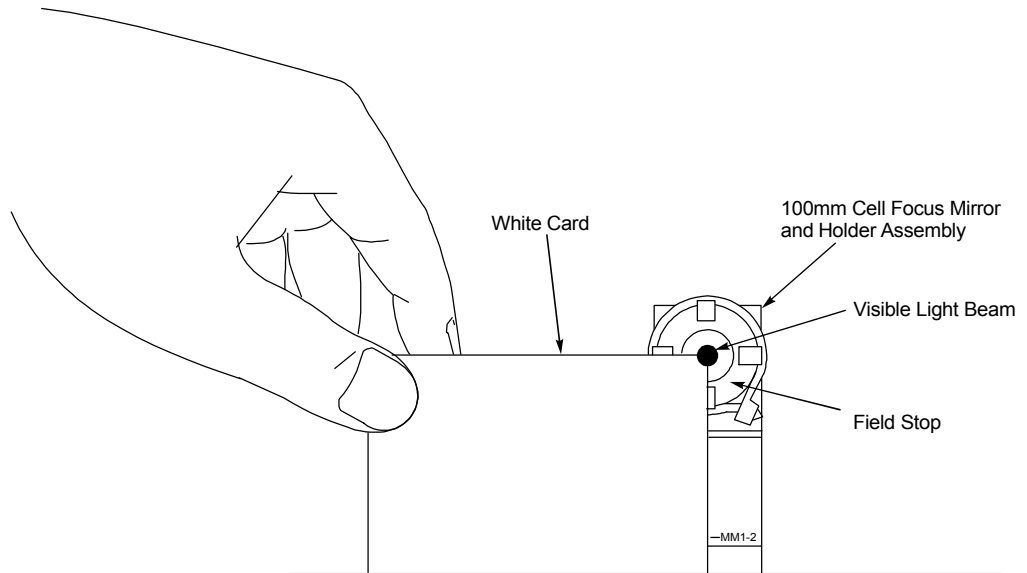

Figure 4-3. Aligning the beam at the center of the cell focus mirror
14. Refer to Figure 4-3 and use a white piece of paper or card (business cards are ideal) to check if the light image falls on the center of the cell focus mirror. If it doesn't, you must loosen the setscrew (see Step 12) and adjust the bulb's position to achieve proper alignment. Then retighten the setscrew.